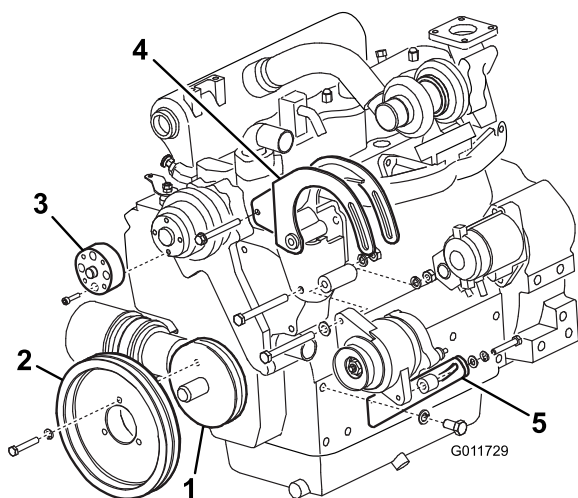

Figure 4
15. Mount the new double pulley (Figure 4) to the crank shaft pulley with (3) M8-1.25 x 50 mm bolts and 5/16 lockwashers. Torque the fasteners to 21-23 ft./lbs. (28-31 N-m).
16. Mount the new fan adapter (Figure 4) to the alternator pulley with (4) M6 x 25 mm socket head bolts. Torque to 8-10 ft./lbs. (11-14 N-m).
20. Using the old alternator mounting bracket bolt and a M10 x 100 mm bolt, lockwasher and nut, mount the new bracket (Figure 4) to the engine at the same locations the alternator was mounted.
22. Mount the new alternator support to the engine with a M12-1.25 x 25 mm bolt and M12 lock washer. Position the support as shown in Figure 4.
23. Loosely mount the alternator to the bracket (Figure 4) with the old pivot bolt.
24. Loosely mount the alternator to the support (Figure 4) with a M8-1.25 x 50 mm bolt, 5/16 lock washer, .344 x .688 flat washer and spacer.